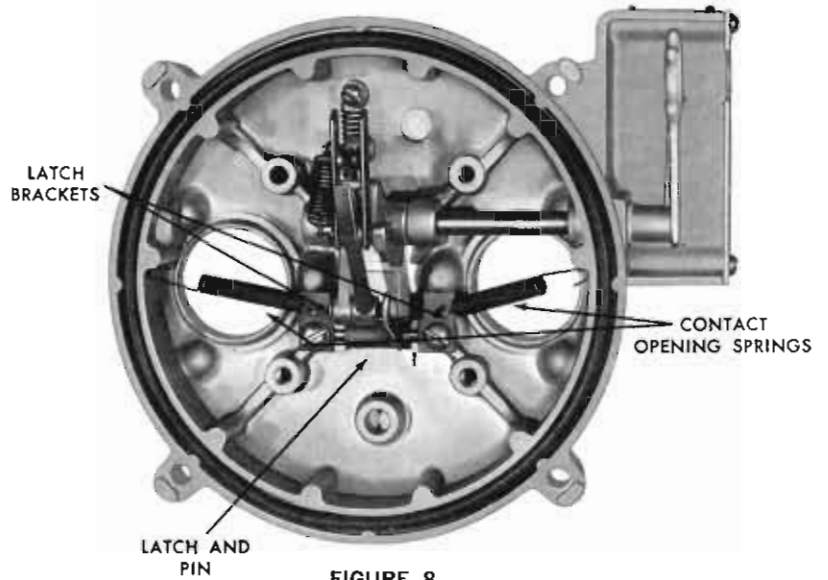

FIGURE 8
1. Refer to figure 8 which shows a head mechanism after hydraulic components, contact mechanism, and bushings have been removed. Lift out the two contact opening springs.
NOTE 2: Latch brackets on early GH sectionalizers were installed as shown in figure 12. Best results will be obtained if the bracket away from the sleet hood is turned to the same position as the bracket closest to the sleet hood, as in figure 8.